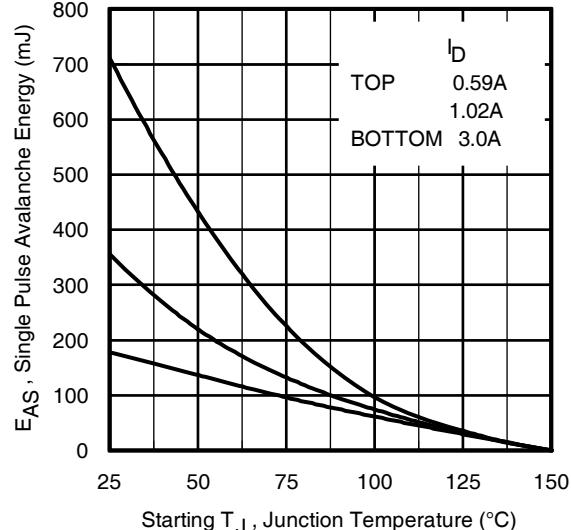

Fig 13. Maximum Avalanche Energy vs. Drain Current
- ② Starting $T_J = 25^\circ\text{C}$, $L = 40\text{mH}$, $R_G = 25\Omega$, $I_{AS} = 3.0\text{A}$. (See Figure 13).
- ③ $I_{SD} = 6.0\text{A}$, $dI/dt \leq 416\text{A}/\mu\text{s}$, $V_{DD}V_{(\text{BR})\text{DSS}}, T_J \leq 150^\circ\text{C}$.
- ④ Pulse width $\leq 300\mu\text{s}$; duty cycle $\leq 2\%$.
- ⑤ C_{oss} eff. is a fixed capacitance that gives the same charging time as C_{oss} while V_{DS} is rising from 0 to 80% V_{DSS} . C_{oss} eff.(ER) is a fixed capacitance that stores the same energy as C_{oss} while V_{DS} is rising from 0 to 80% V_{DSS} .
- ⑥ R_θ is measured at T_J approximately 90°C
- ⑦ When mounted on 1" square PCB (FR-4 or G-10 Material). For recommended footprint and soldering technique refer to application note # AN- 994 techniques refer to application note #AN-994.